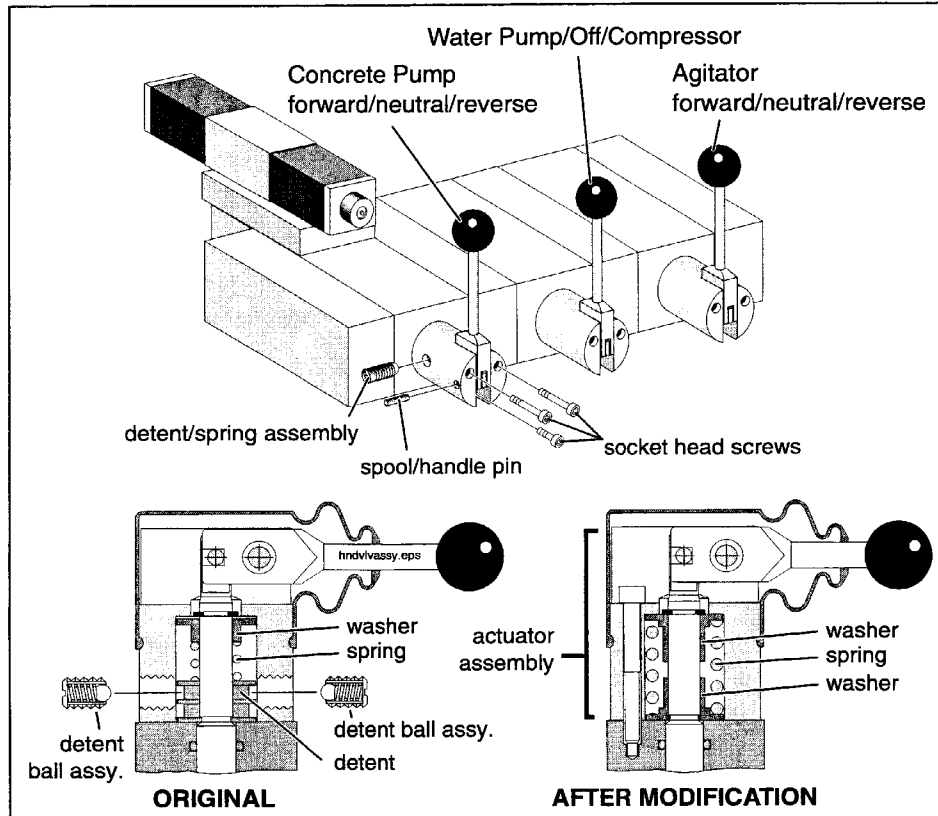

Figure 5
- a. Remove the rubber boot from the concrete pump forward/neutral/reverse handvalve. You will see the three screws that hold the handle and actuator assembly to the valve body. (See figure 5.)